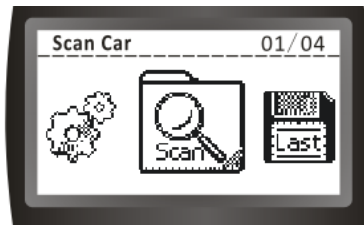

Figure 6
- 3、 Press  OR  button, the screen will change to: “Scan function”: (Figure 6)